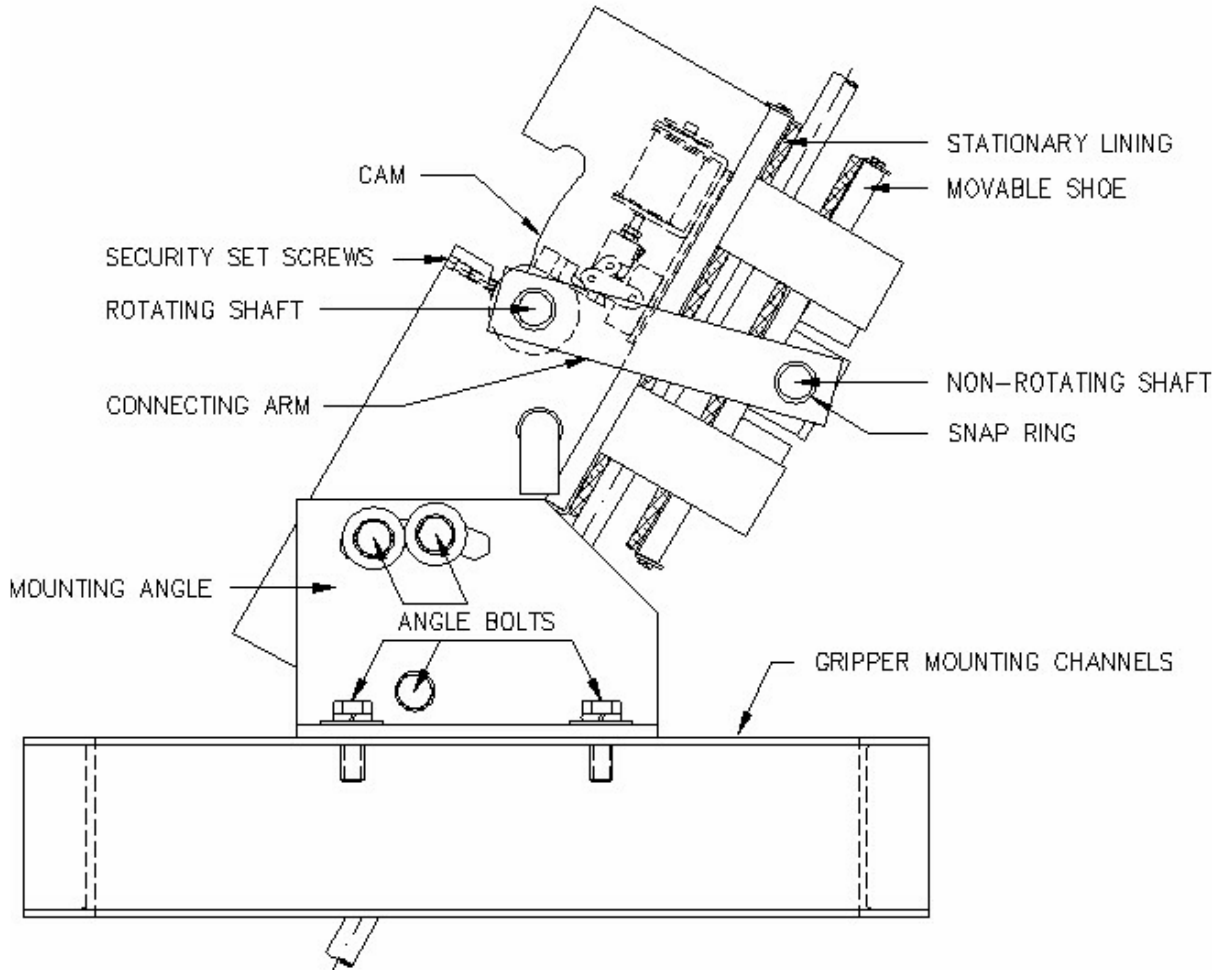
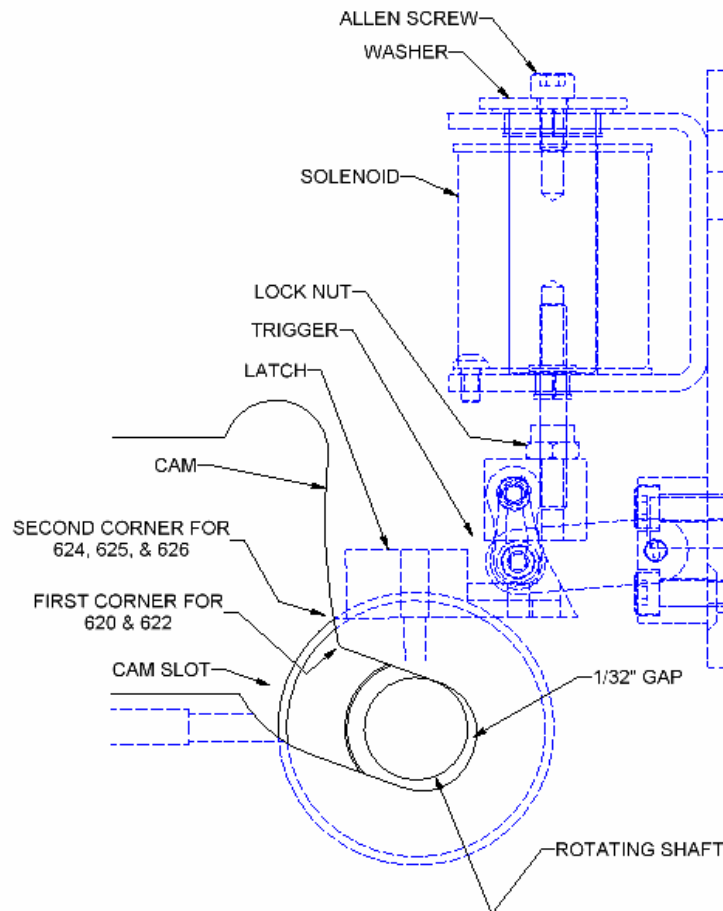

FIGURE 1
FIGURE 5
- Be sure security set screws are touching and holding the rotating shaft in the LOADED position as shown in **Figure 1** above.
- A line has been marked on the side wall of the gripper to aid in the Wear-In process. *Note that at this point in the procedure, this line is well above the Connecting Arm and will be met or covered by the Connecting Arm during the Wear-In process (see **Figure 1** for location of Connecting Arm).*
- As the linings wear-in, the rotating shaft will move up the cam slot and around the corner(s) of the cam noted above (**Figure 5**), and the connecting arms (see **Figure 1**) will move up the side wall and begin to match or line up with the wear-in line marked on the side wall.
Note: #624, #625, and #626 have **two** corners. These grippers are **not** worn-in until the rotating shaft goes past the **second** corner of the cam as noted above (see **Figure 5**) and the connecting arm meets or covers the line marked on the side wall.
to get the latch hook past the trigger, and then shut off. The hydraulic pressure will slowly bleed off until trigger and latch are resting together. At this point, the trigger and latch should be engaged as shown in **Figure 5**.